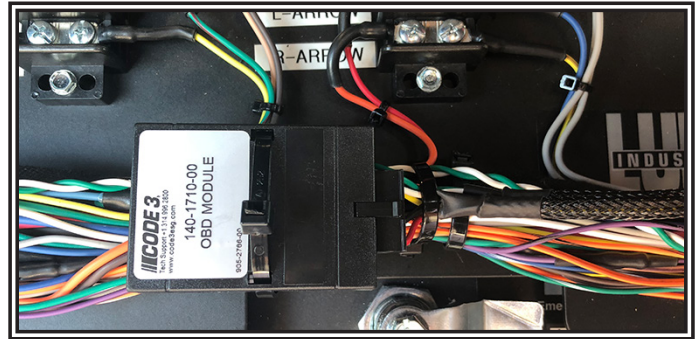

Figure 5
Step 2. Connect the OBDII Device to the 14 Pin connector on the OBDII Harness. Secure the device away from moving parts. See FIGURE 5.